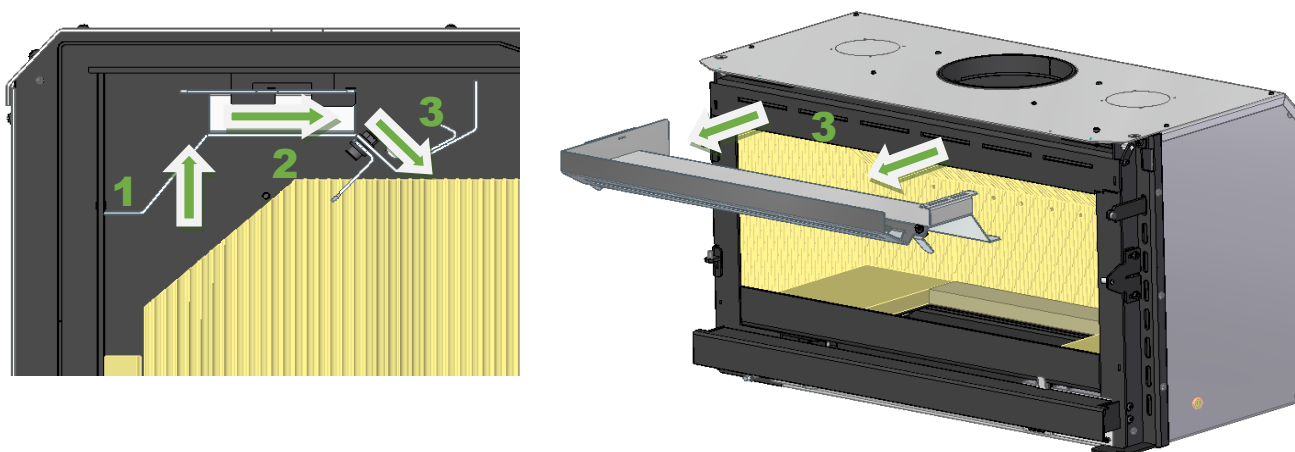

Figure 37 – Removing the smoke circuit
2. Remove the smoke channel (B) by pushing it towards the top of the stove (1). Then move the smoke channel forward (2), it is loose and remove it by moving it downwards (3), Figure 37.